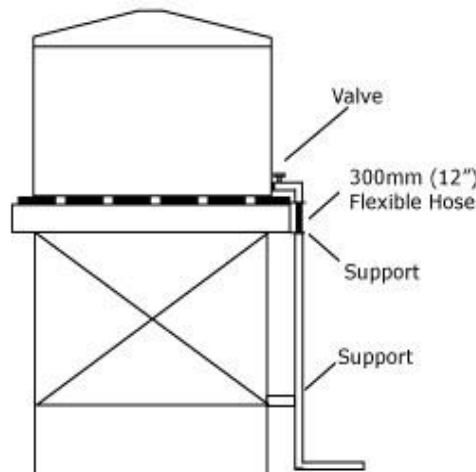

FIGURE 3
- When fitting pipe to a tank stand the pipe must be supported by the tank stand, not the tank (see figure 3).